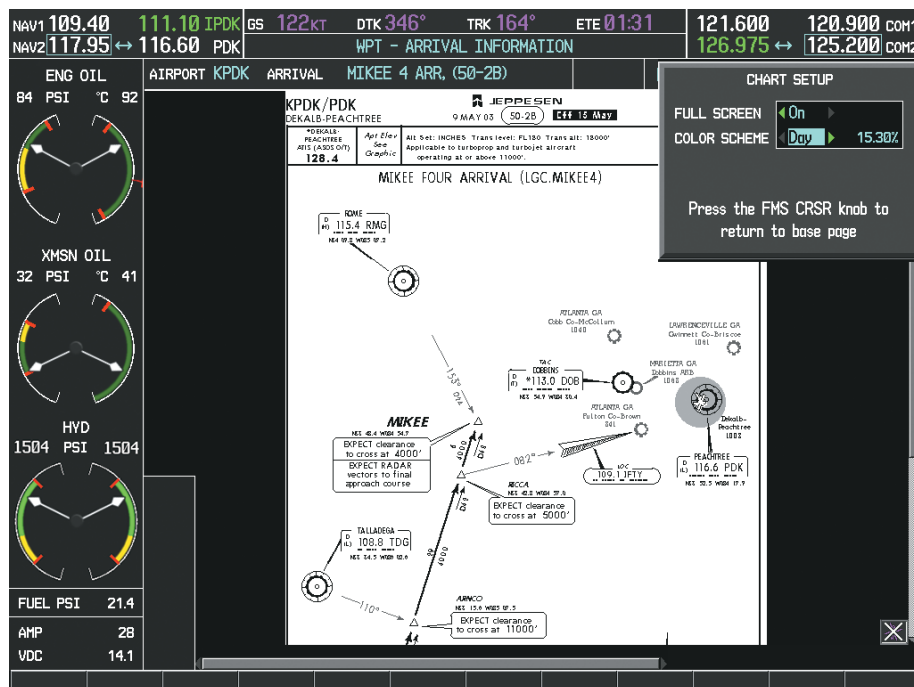

Figure 7-44 Arrival Information Page, Day View
- 3) Turn the large **FMS** Knob to move to the COLOR SCHEME Option (Figure 7-44).